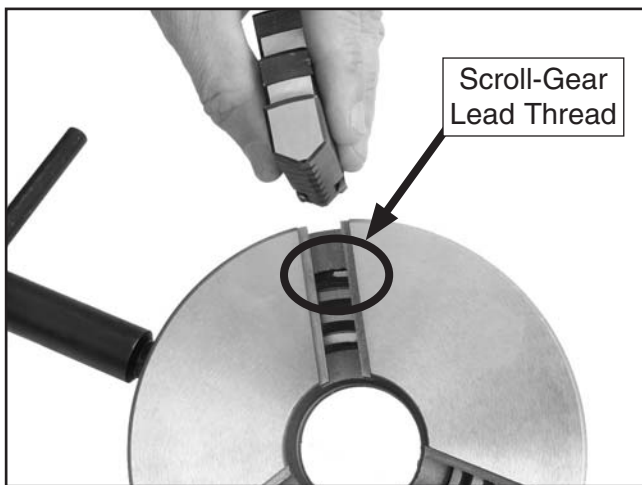

Figure 18. Installing the first jaw in the 3-jaw chuck.
4. Insert and rotate the chuck key clockwise until you see the beginning of the scroll gear lead thread come into view through the jaw guide, then back it off slightly until it disappears (see **Figure 18**).